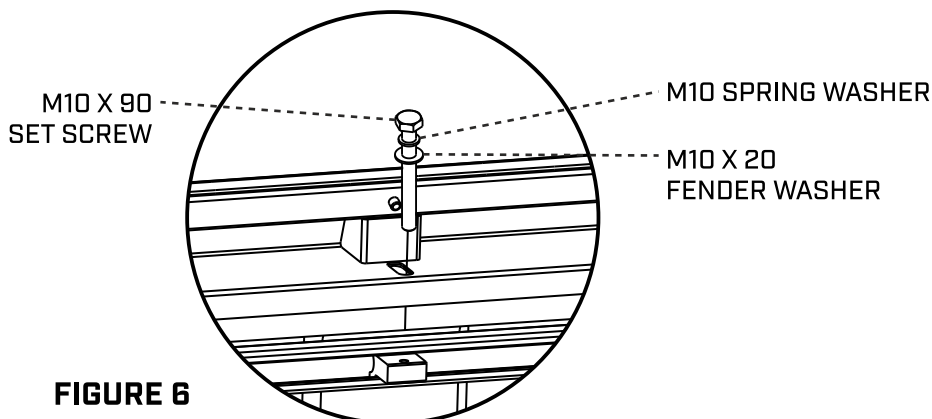

FIGURE 6
4. SEE FIGURE 6 BELOW FOR MORE CLARITY.